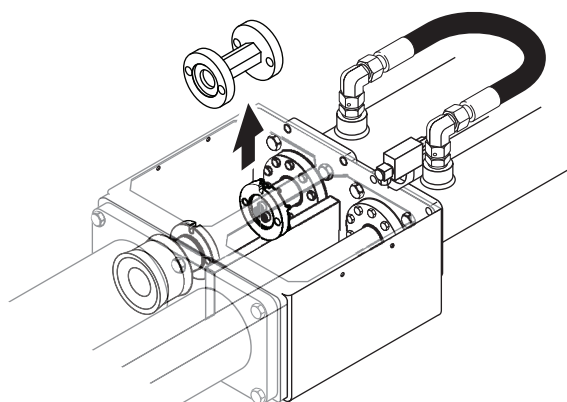

Figure 22
7. Remove the spacer coupling from the waterbox (Figure 22).